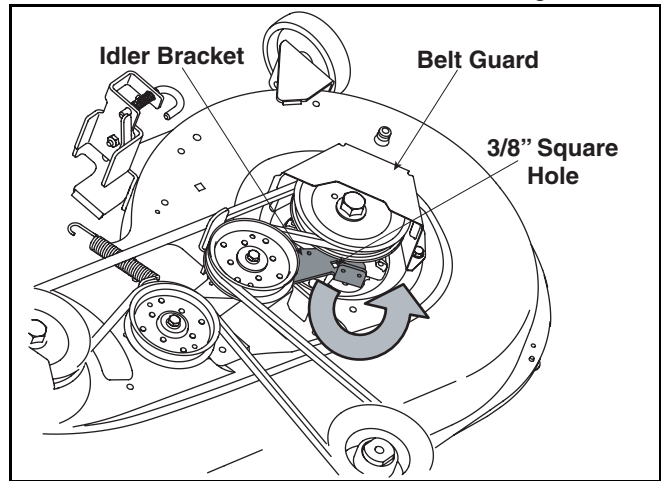

Figure 25
- Insert a 3/8"-drive ratchet wrench (set to *loosen*) into the square hole found in the idler bracket on the left side of the deck's surface. See Figure 25.